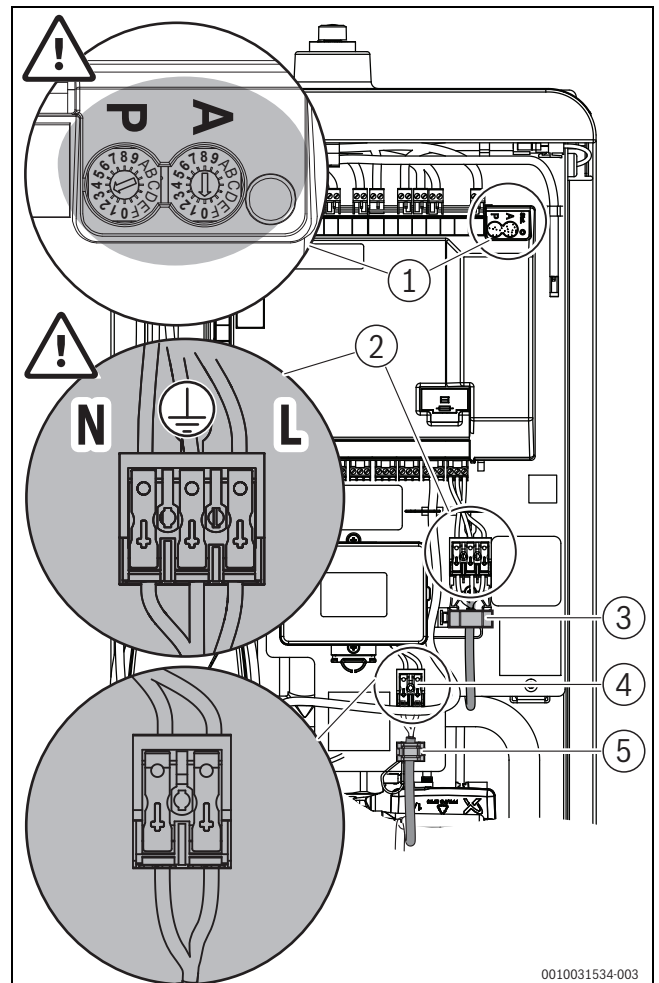

Fig. 27 Connecting the mains power supply and booster heater control cable
i A cable of the type H05V2V2 F, 3x1.5 mm² which is 2.5 m in length is connected as standard to the mains power supply terminal (→ Fig. 27). Alternatively an on-site connection can be established using a suitable cable.
- ▶ Connect the mains power supply via the mains power supply terminal on the retaining plate (→ Fig. 27, [2]).
- ▶ Make sure the potentiometer setting is correct for hybrid application (**P=3 and A=0**) as shown in Fig. 27, [1]. If necessary, turn the direction arrow to the corresponding position with a screwdriver.